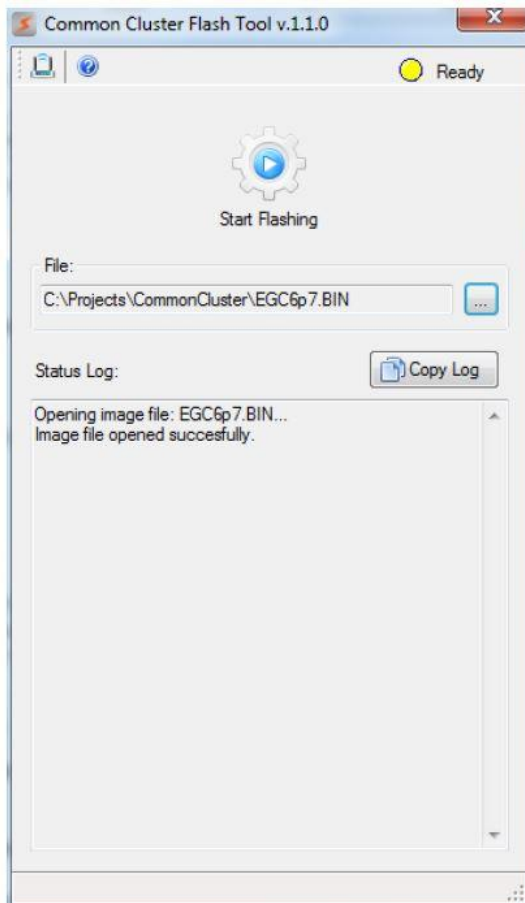

Figure 5- Select File
3. Locate the flash file(EGC7P0). The flash file is located in the following directory: Computer\Windows\Program Files(x86)\stoneridge\common cluster flashtool\bin file After the file is selected, the "Status Indicator" will be yellow, steady and labeled with the text "Ready", and the "Start Flashing" button will be enabled (See Fig. 5). The status log window will say "Open image file:EGC7P0.BIN...Image file opened successfully
4. Make sure that the common cluster unit and the selected CAN interface are properly connected and powered. Press the "Start Flashing" button to start the re-flashing process and the flash tool will display a warning message to turn the key off (See Figure 5).